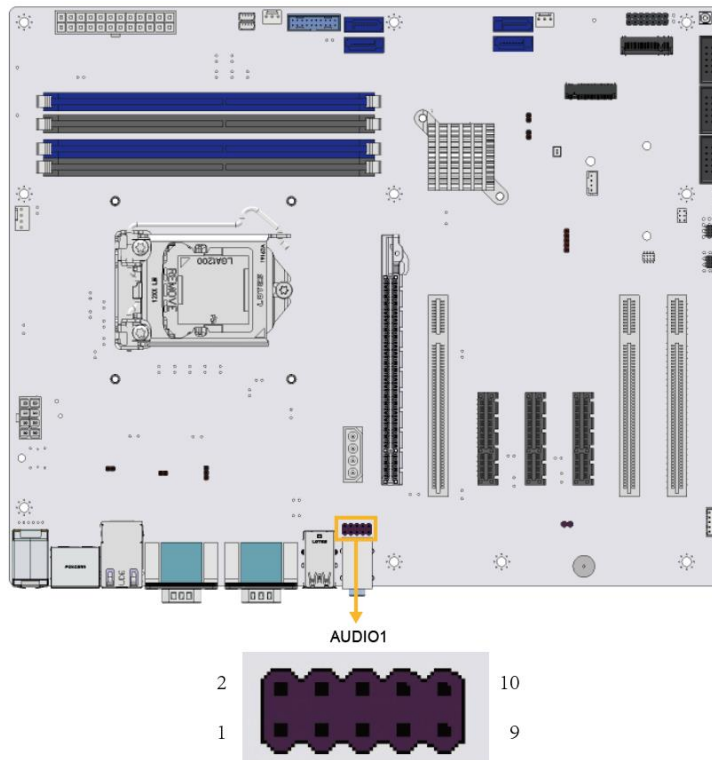

Figure 3-17: AUDIO1 Location
- CN Location:** See Figure 3-17